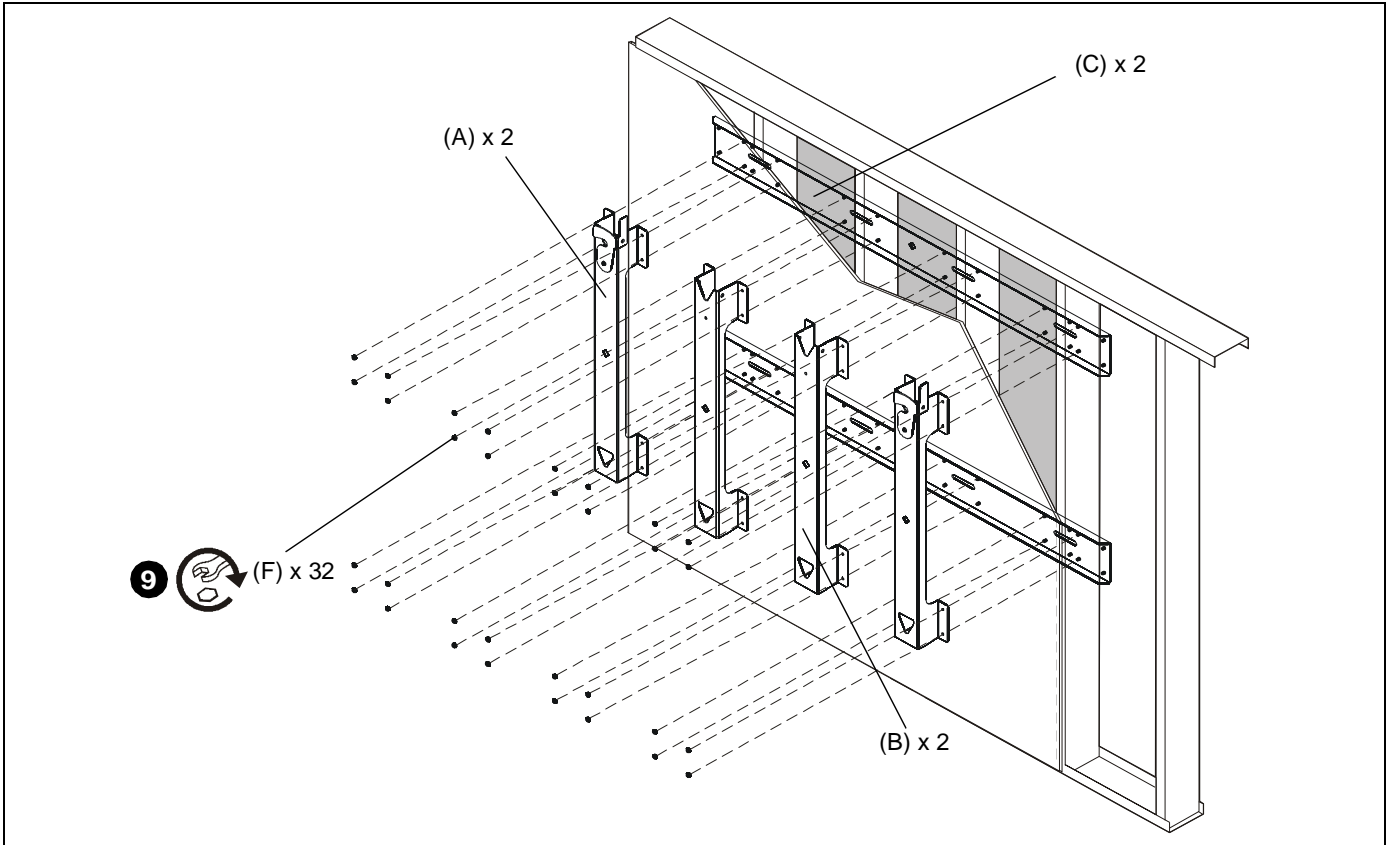

Figure 3
9. Attach two outside vertical brackets (A) and two inside vertical brackets (B) to two horizontal brackets (C) using thirty-two 5/16-18" nylon lock nuts (F). The outside vertical brackets installed must be attached as the outer two brackets. (See Figure 3)